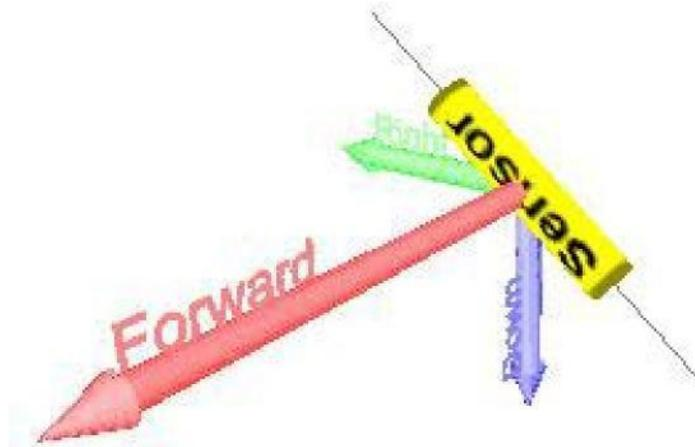

Figure 2 Graphical Sensor Model
- 4) *Now press the “Next” or “Solution” button to see the suggested sensor orientation.* This step causes the program to calculate the proper sensor orientation and displays a solution window that provides an image of the 3-dimensional (rotatable) sensor model. (See Figure 2 below) The model is labeled
- c) **Sensor** - This tab shows a 3-D picture of the sensor along with the magnetometer body axis. (See Figure 2 below) Dragging the mouse cursor with the left mouse button depressed rotates the picture. Dragging with both the left mouse button and Ctrl key depressed will zoom the picture in and out. This graphic model is provided to help the user understand how the cesium magnetometer sensor should be oriented relative to the magnetometer body. There is no relationship between the picture orientation and the heading of the survey.